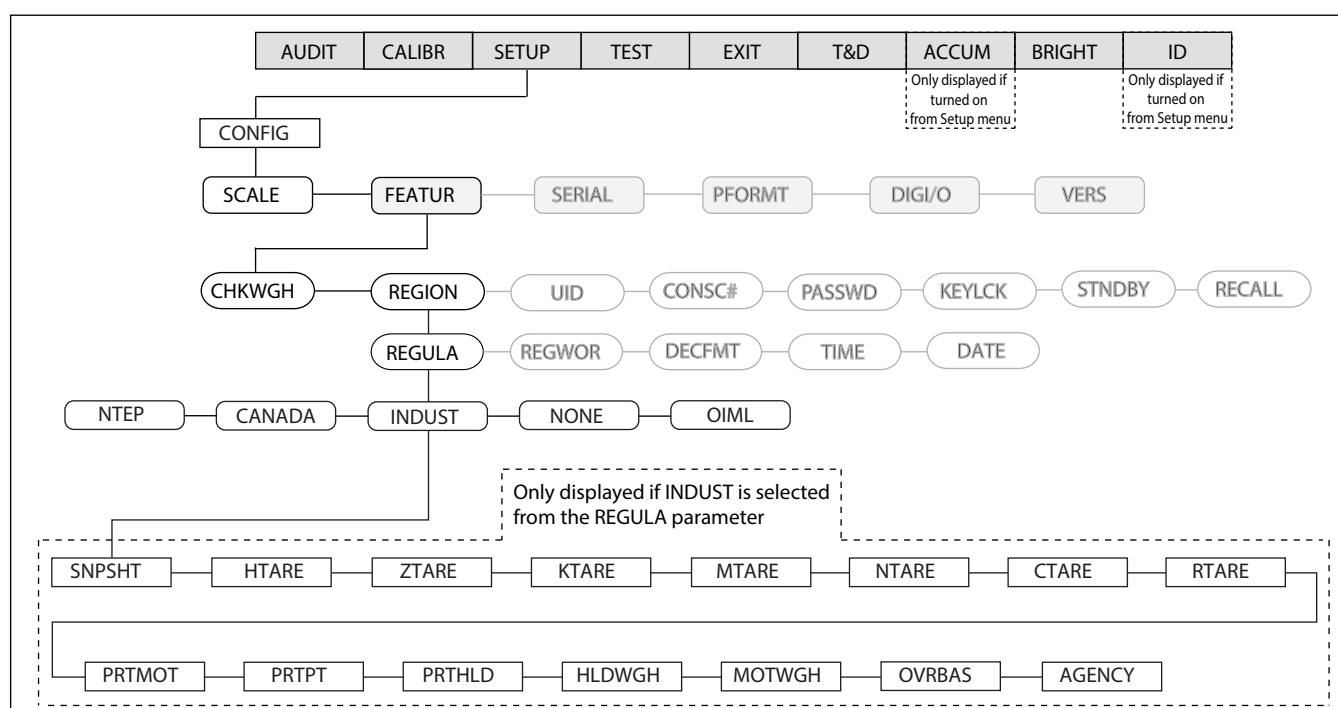

Figure 3-19. Regulation Menu
*INDUST Submenu is in Figure 3-19 on page 39